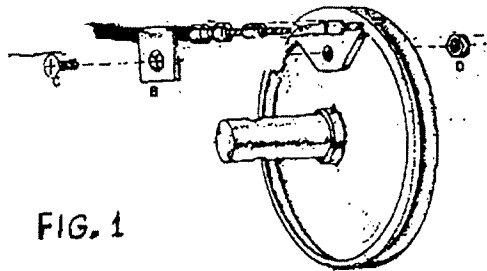

FIG. 1
STEP 1: Insert cable core into slot on spool as illustrated in Figure 1. After the core is placed into slot place clamp into position over the cable core and align clamp hole with the clamp hole in the spool. Use the clamp screw and clamp lock nut to secure clamp. Torque set screw to a minimum of 60 inch lbs. Do not exceed 75 inch lbs.